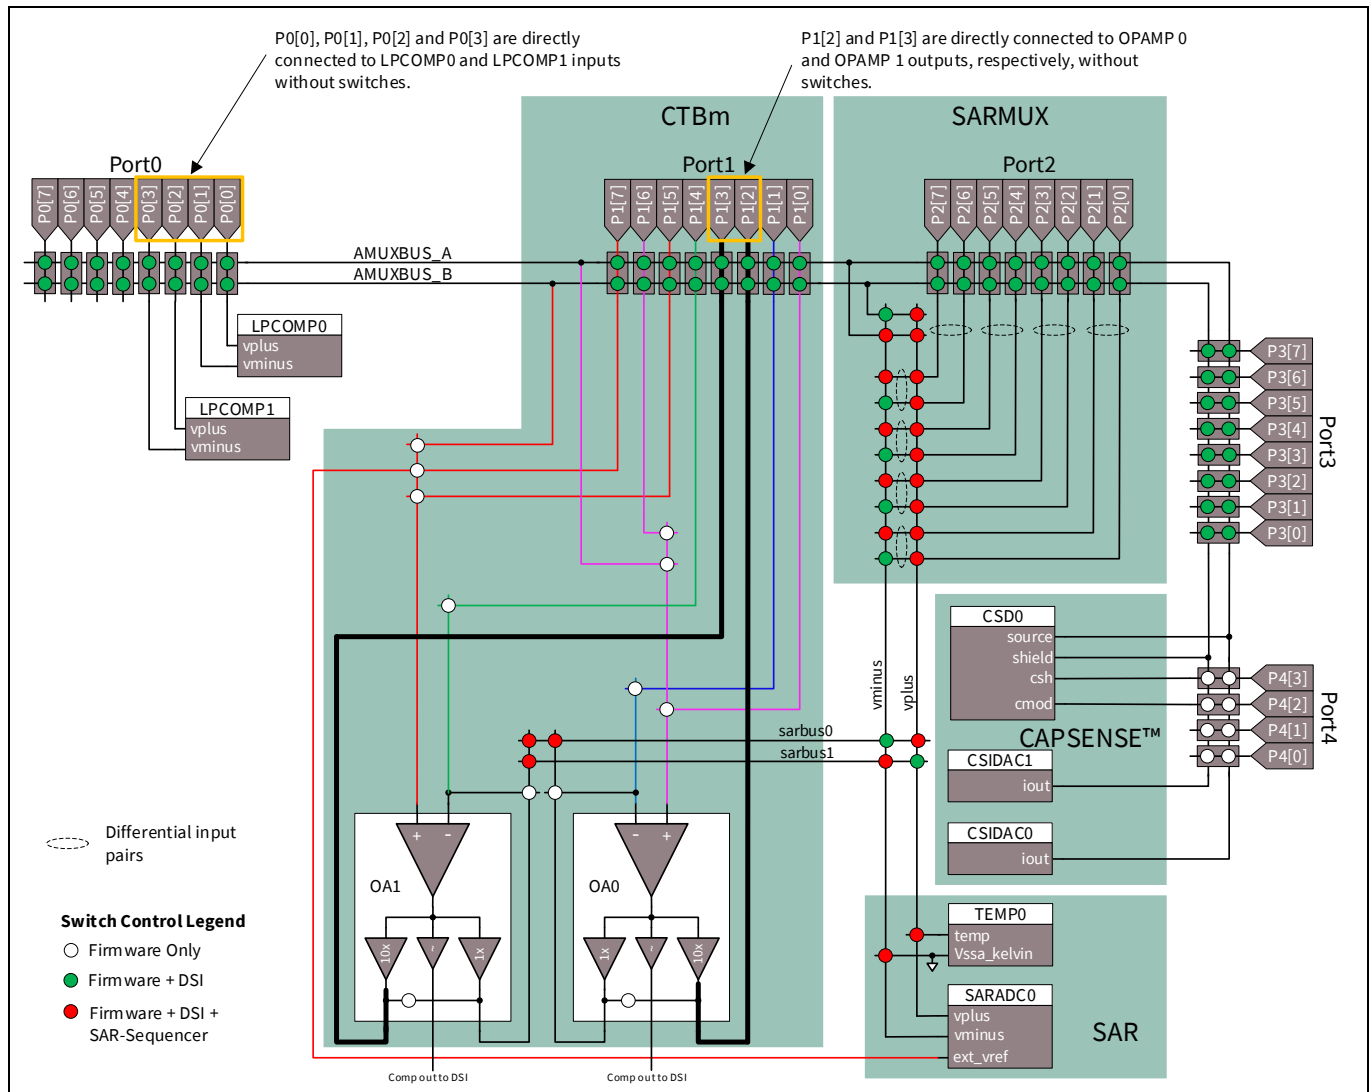
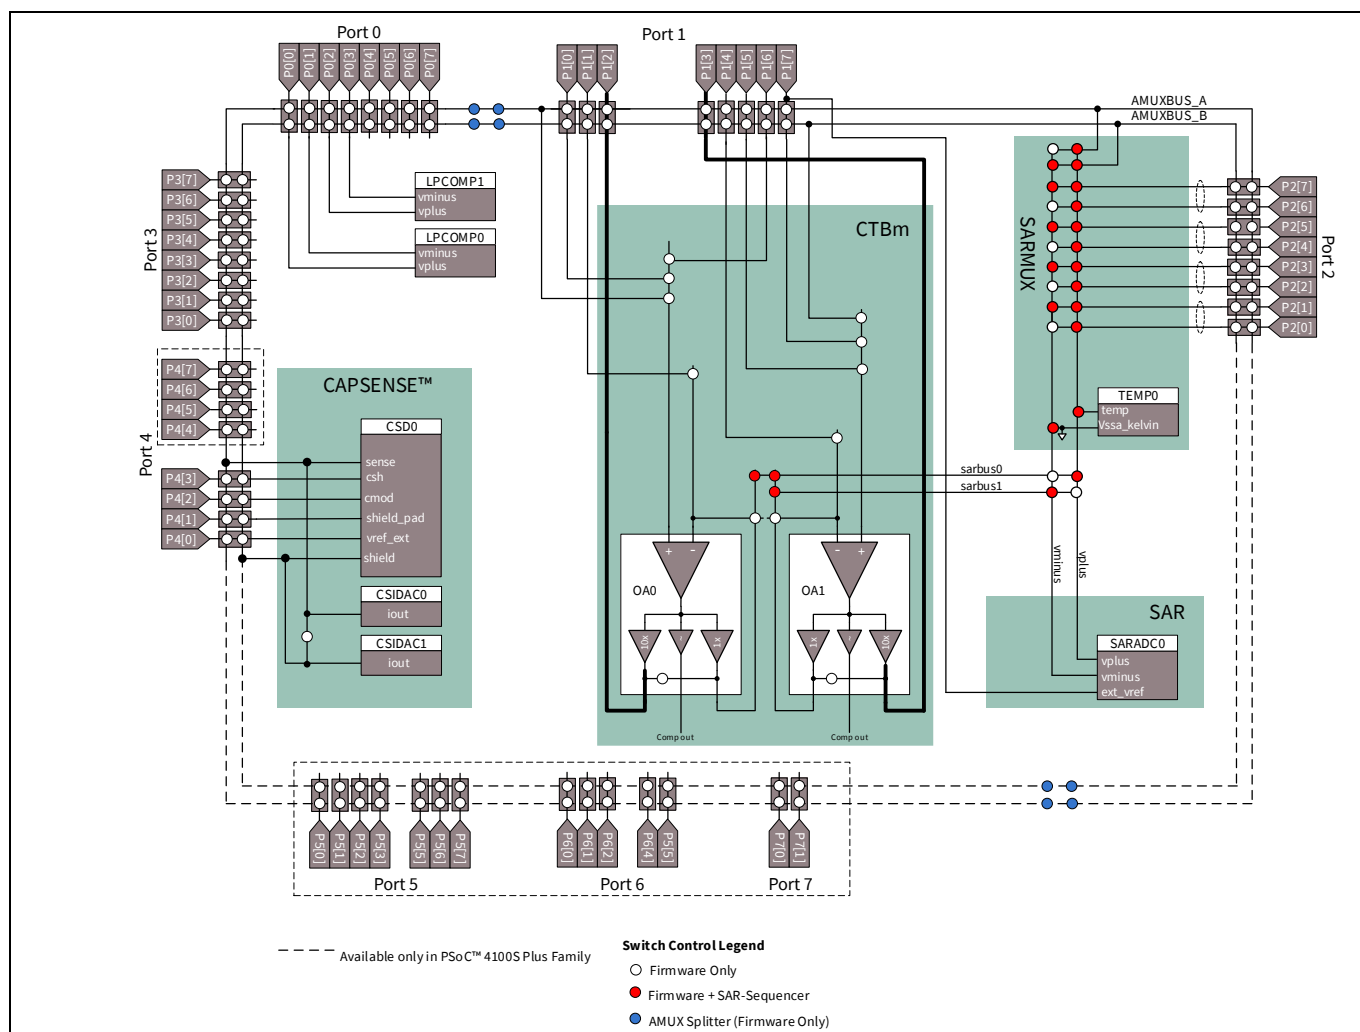
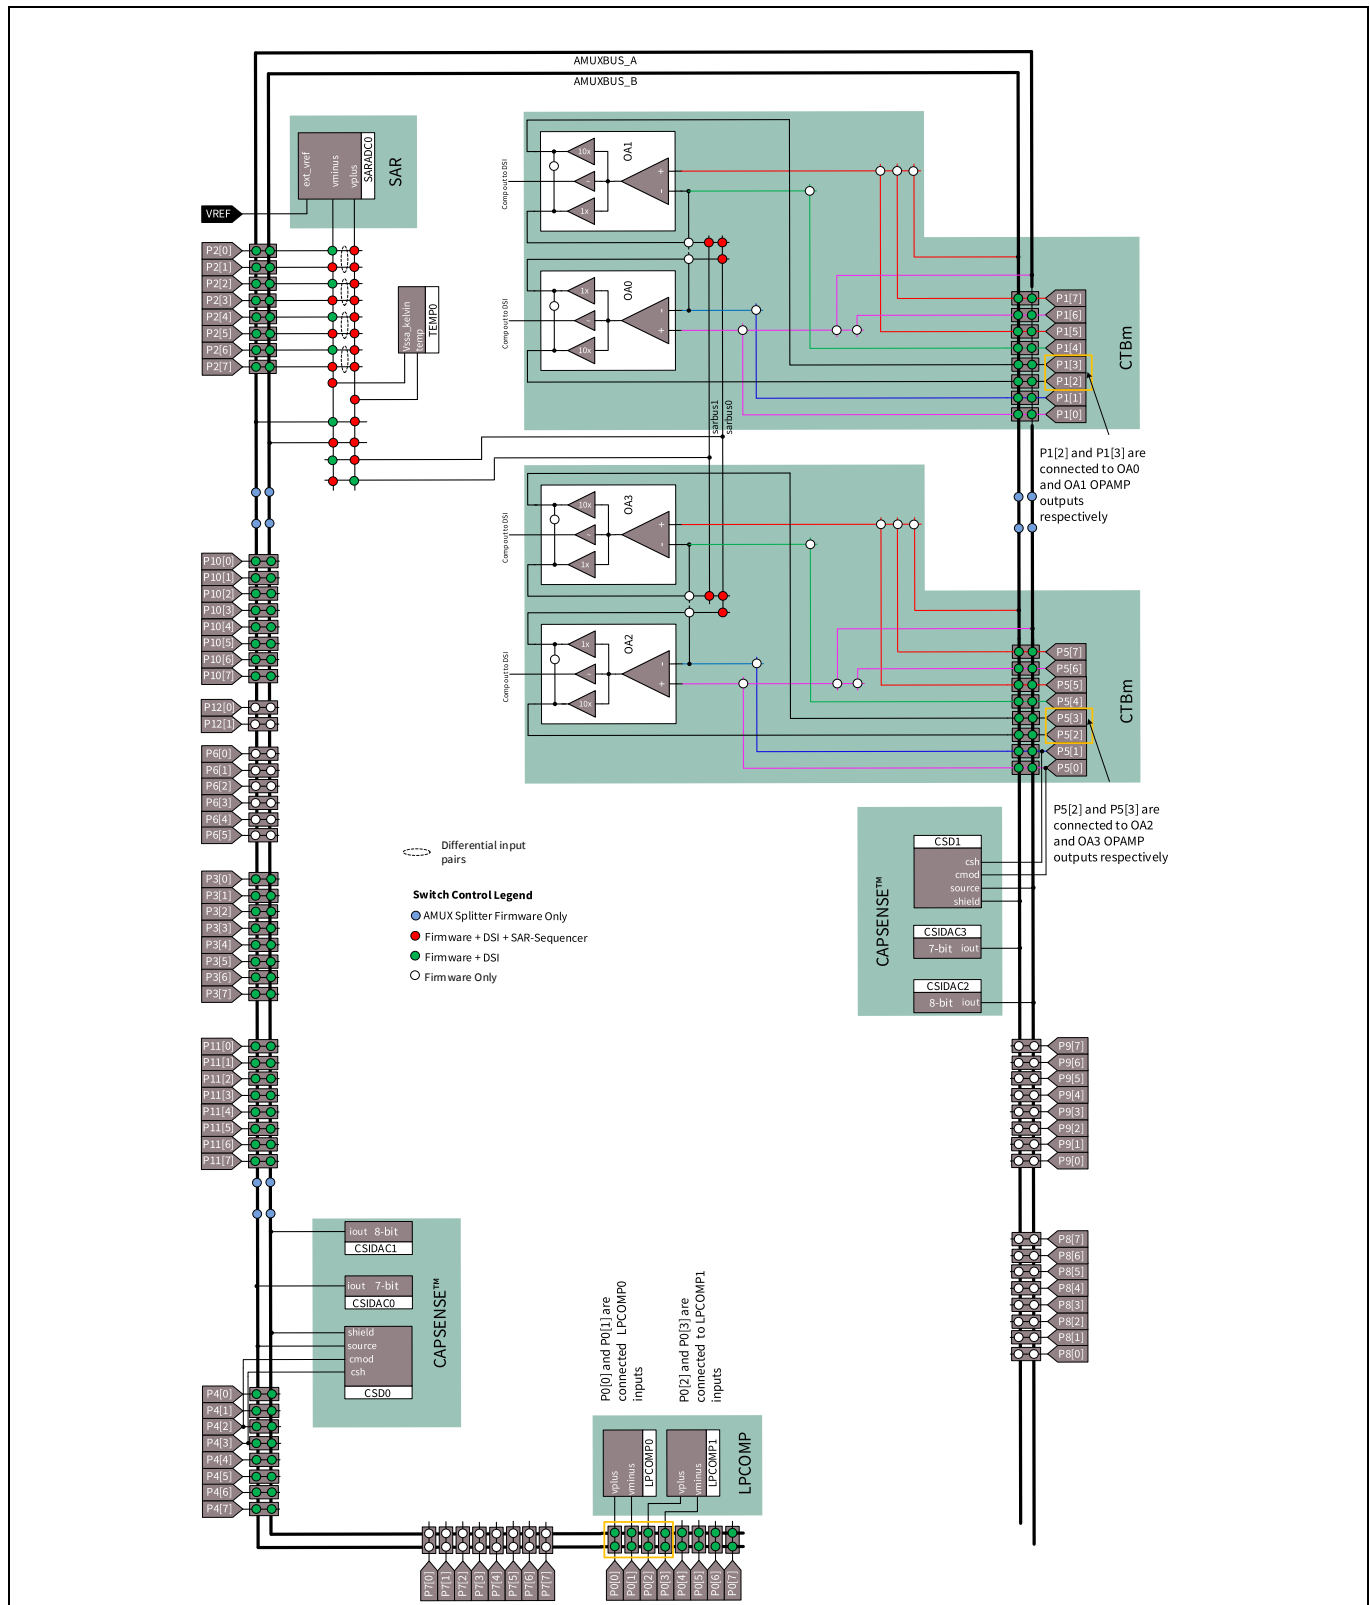

Figure 13 PSoC™ 4200/PSoC™ 4100 analog routing diagram
Figure 14 PSoC™ 4100S/4100S Plus analog routing diagram
Figure 17 PSoC™ 4200L analog routing diagram
The following are the key highlights of analog routing in other PSoC™ 4 parts — see Figure 13 through Figure 17.
- There are dedicated pins for CAPSENSE™ CMOD and the shield tank capacitor. See Figure 13 through Figure 17 to know about the pins.
- AMUXBUS_A and AMUXBUS_B can be split using switches (marked in blue) as shown in Figure 14 through Figure 17. This is useful if the AMUX buses are required for non-CAPSENSE™ applications such as opamp/comparator input and output routing along with CAPSENSE™ in the system.